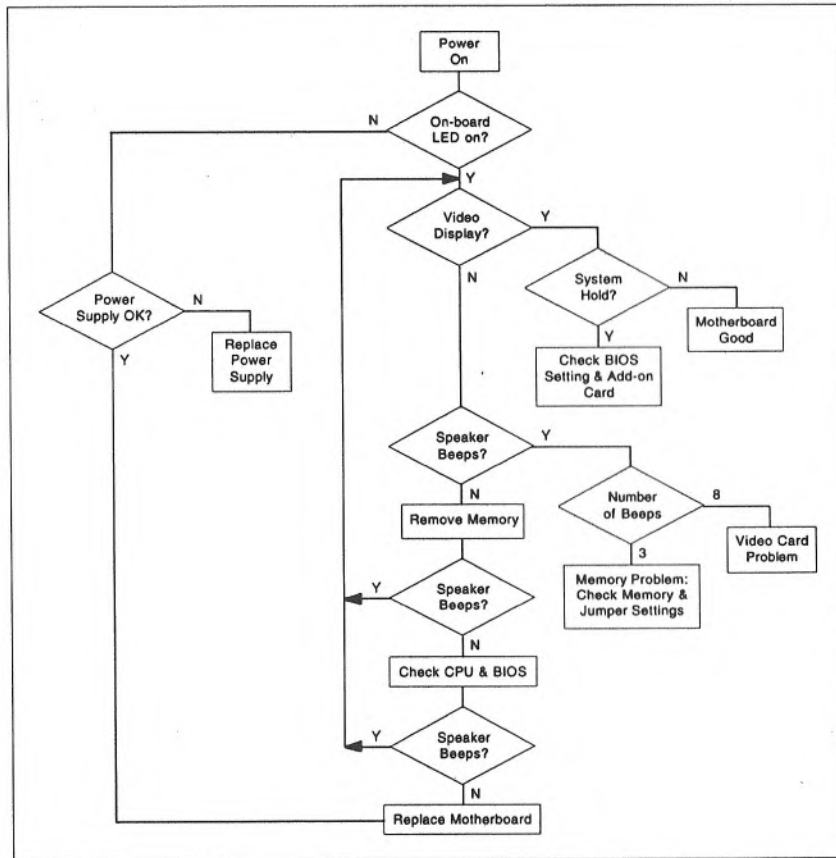

Figure 4-1. Troubleshooting Flowchart
1. If you have no video, follow the flowchart in Figure 4-1.